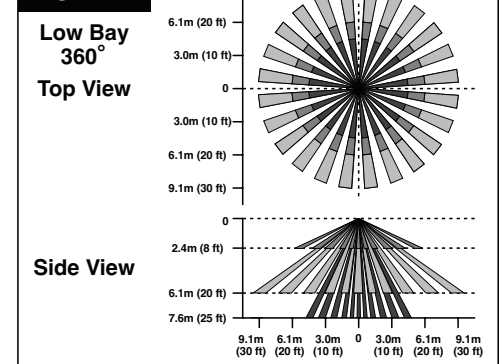

Figure 6A
1. To change lens, turn trim ring so that the two indented dots line up and pull out by the finger tabs (refer to Figure 6A).